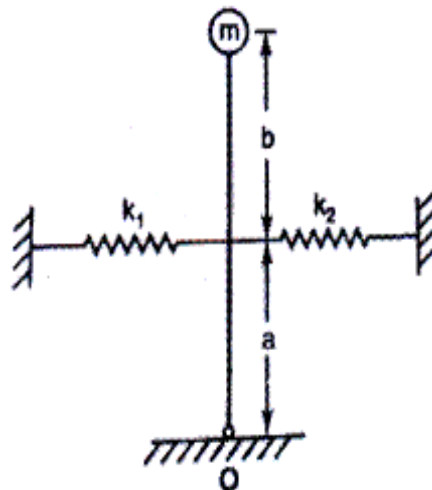

Fig. 1 (Q. 1b)
b) Determine the expression for natural frequency of the system shown in Fig.1 [4]